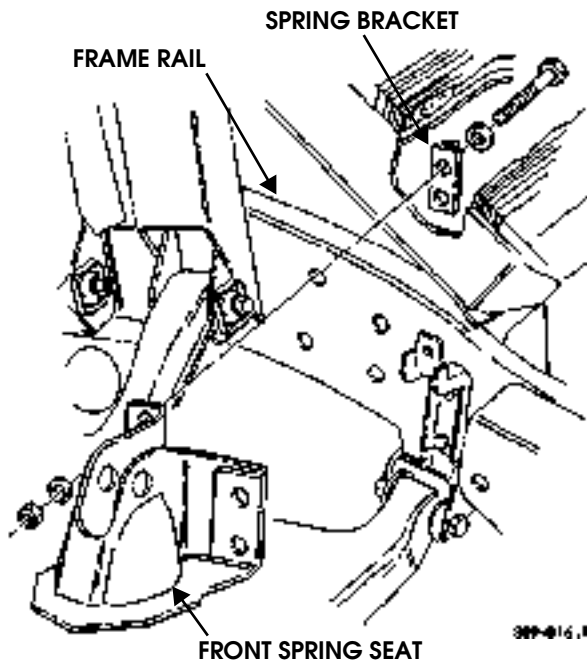

Figure 9-127: Front Spring Seat Replacement
2. Remove four locknuts, washers, bolts, spring bracket, and front spring seat from frame rail (Figure 9-127).
1. Install spring bracket and front spring seat on frame rail with four washers, bolts, washers, and locknuts. Tighten locknuts to 261 lb-ft (354 N•m) (Figure 9-127).